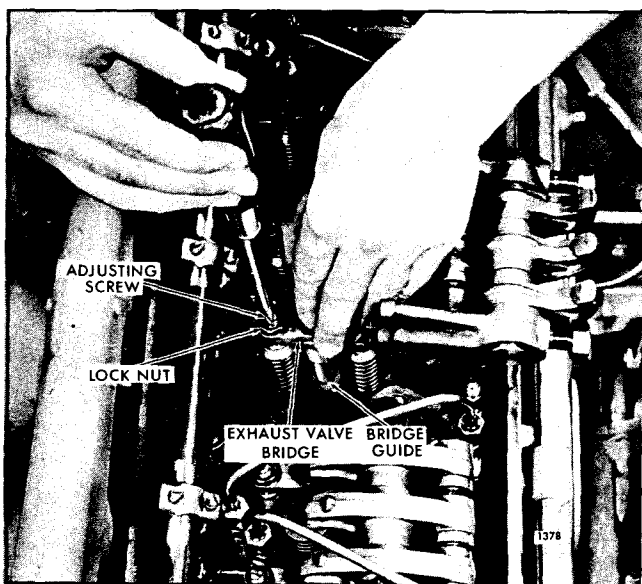

Fig. 2 - Valve Bridge Adjustment
2. Remove the exhaust valve bridge (Fig. 2).